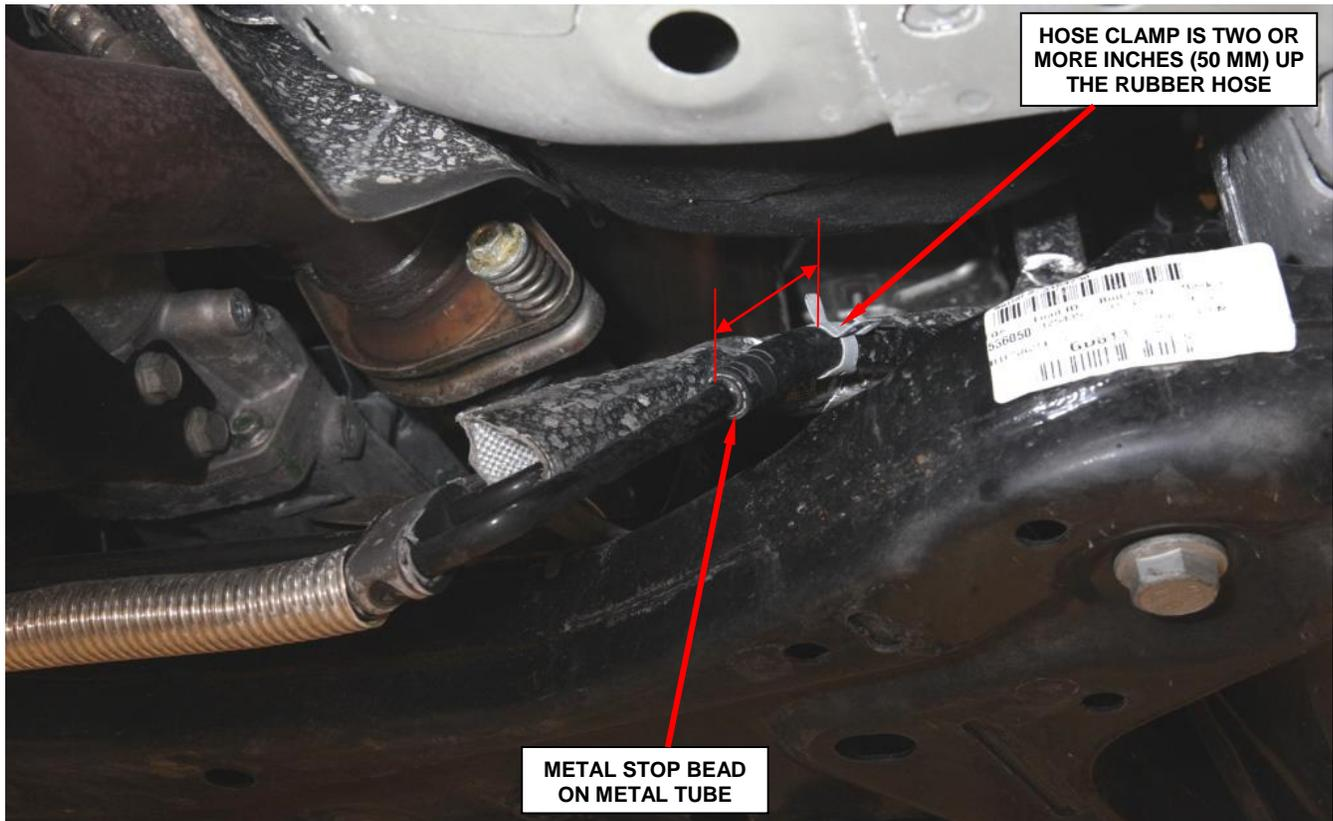

Figure 2 - Incorrectly Located Power Steering Return Hose Clamp
- If the power steering return hose clamp is approximately two inches up the hose, it is not in the proper position (Figure 2). Continue with Step 3 of this procedure.